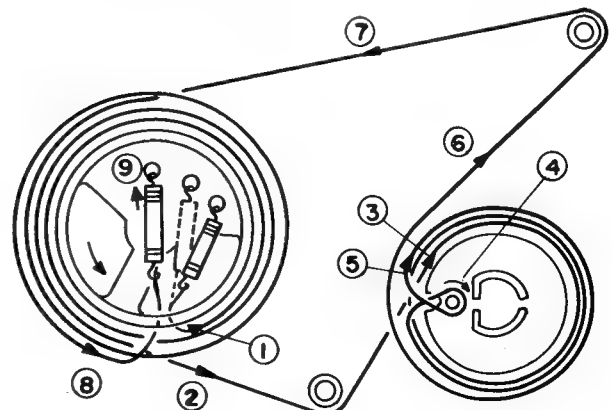

Fig. 41
- Fit the cord in numerical order as shown in Fig. 41.